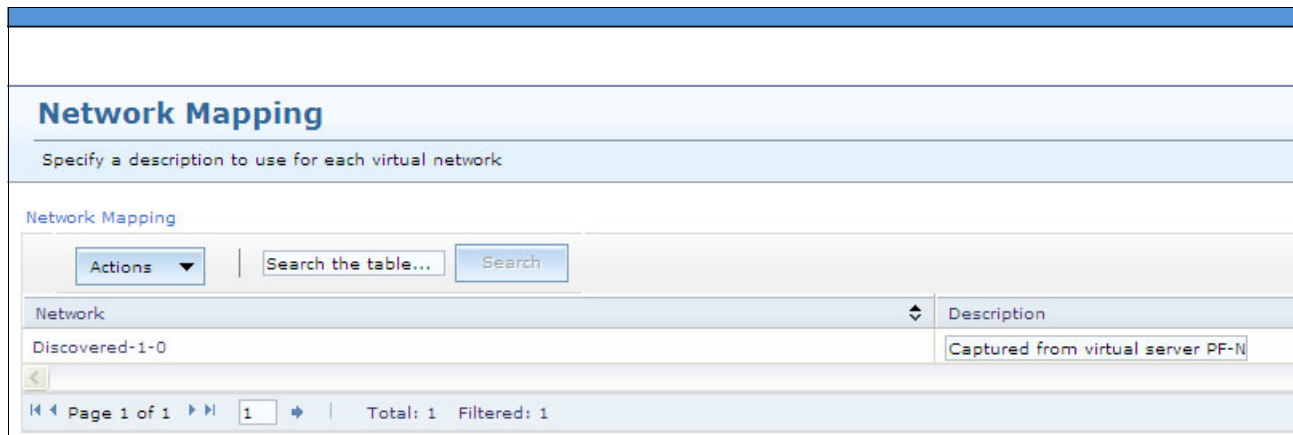

Figure 10-70 Capture: Network Mapping
6. Select a network as shown in Figure 10-70. In the example, only one SEA was created, so only one network is displayed. If more than one SEA exist, select the network that you want to use.